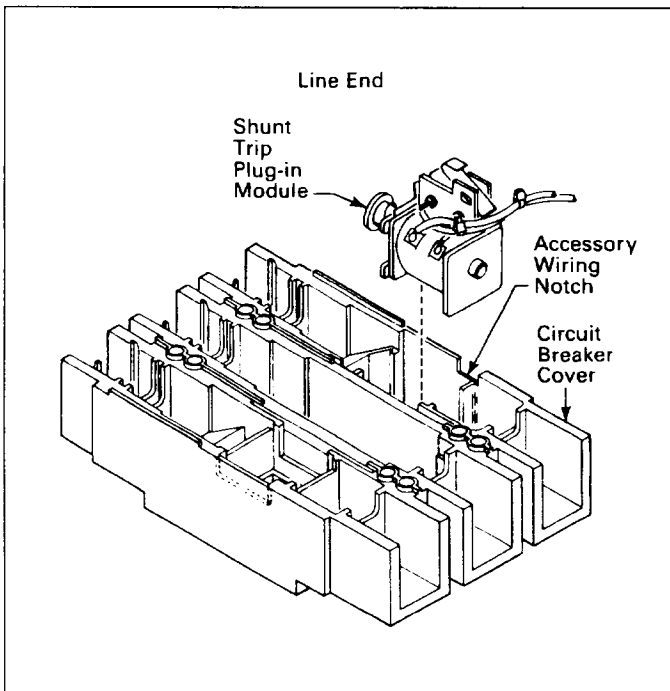

Fig. 2-3 Shunt Trip Installation
- 2-5. With cover in inverted position (Fig. 2-3), position shunt trip plug-in module as shown and slide into mounting cavity in circuit breaker cover.